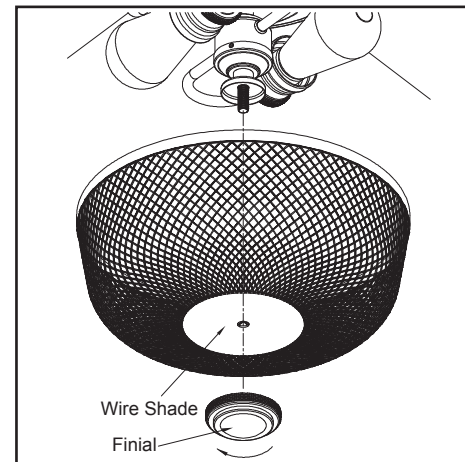

Figure 18
6. Remove the finial from the threaded nipple of the light kit fitter assembly. Position the wire shade over the threaded nipple. Re-install the finial to the threaded nipple properly. (Figure 18)